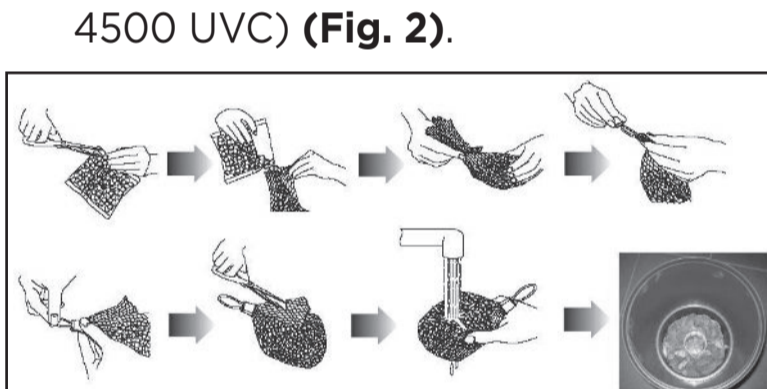

Fig. 2
- The BioLava must be placed in the Filter Case as indicated in the picture (except Pressure-Flo 1200 / 4500 UVC) (**Fig. 2**).